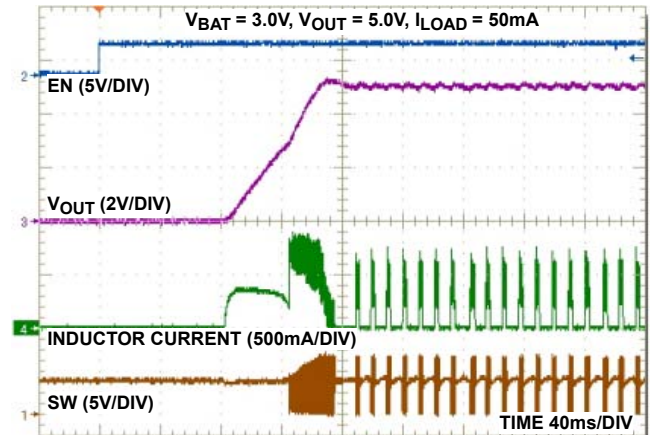

FIGURE 2. START-UP WITH  $V_{IN} = 3V$  AND  $V_{OUT} = 5V$ , 50mA LOAD
Refer to the following Quick Setup Guide to configure and power-up the board for proper operation. During the power-on process, the expected waveforms are shown in Figure 2.
6. Monitor the output voltage start-up sequence on the scope. The waveforms will look similar to that shown in Figure 2.